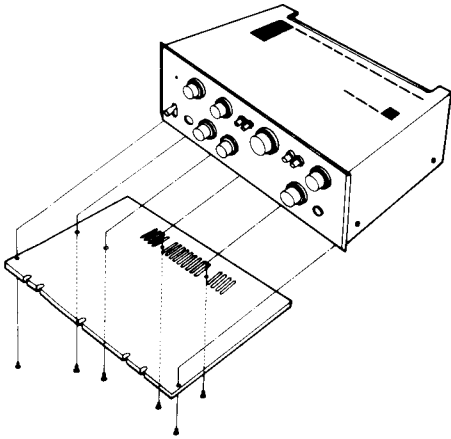

Fig. 10
1. Remove the six screws from the Bottom Board. (see Fig. 10)